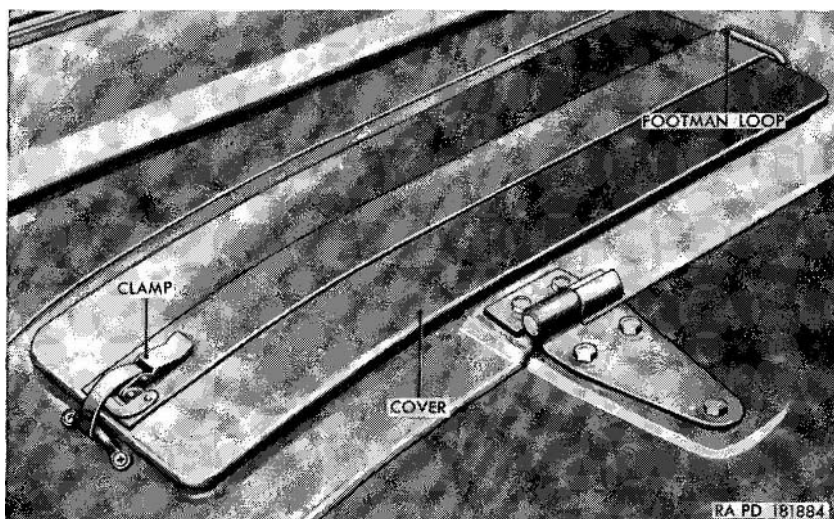

Figure 13.1. (Added) Batteries location—batteries cover installed M170.
a.1. (Added) *Unclamp and Remove the Cover* (fig. 13.1) *on the M170.*